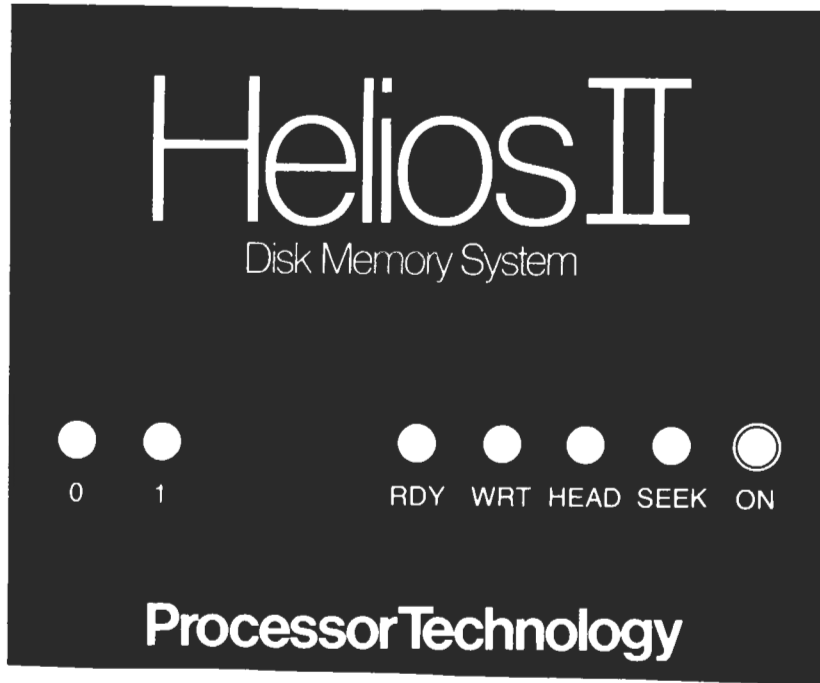

Fig. 4-5 Helios II Indicator Panel, Model 2
4.5 INDICATORS (Refer to Fig. 4-5 and 4-6, Helios II Indicator Panels and Fig. 4-2, Helios System Terminology.)